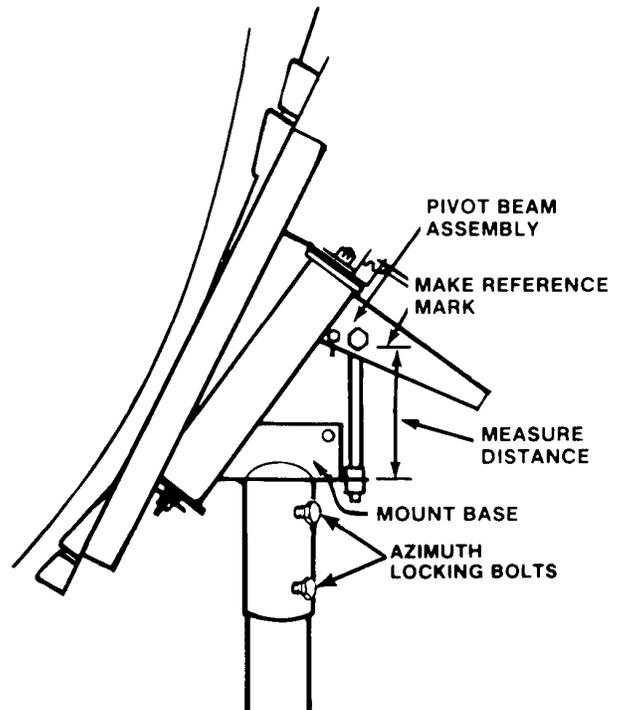

FIGURE 14
STEP 2: Loosen the azimuth locking bolts enough to allow the antenna to rotate. See Figure 14. Rotate the antenna slowly so the pivot beam passes through a line with true north. The receiver should be in the SCAN mode. When a picture flashes on the screen, remove the receiver from the scan mode and rotate the antenna for the best picture.
Make a reference mark on the pivot beam assembly above the polar axis adjustment and measure the distance between the mark and the mount base as shown in Figure 14.